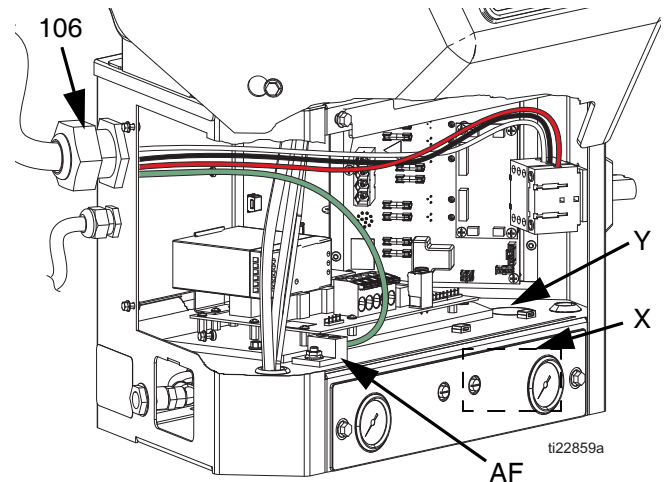

FIG. 13
NOTE: The installed strain relief bushing (106) fits a 0.708-1.260 in. (18-32 mm) OD electrical cord. See FIG. 13. If needed, use a wrench to tighten the strain relief bushing until it is snug on the cable.
4. Insert electrical cord through electrical enclosure strain relief bushing (106). See FIG. 13.
- a. Alternate electrical cord routing: using conduit, run electrical cord from access port (X) through hole (Y). Conduit is required when routing wires near compressed air components.
6. Connect ground wire to chassis ground (AF). See FIG. 13.